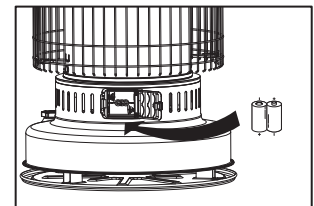

Fig.8
**F) INSTALLEZ LES PILES.** (Fig. 8)